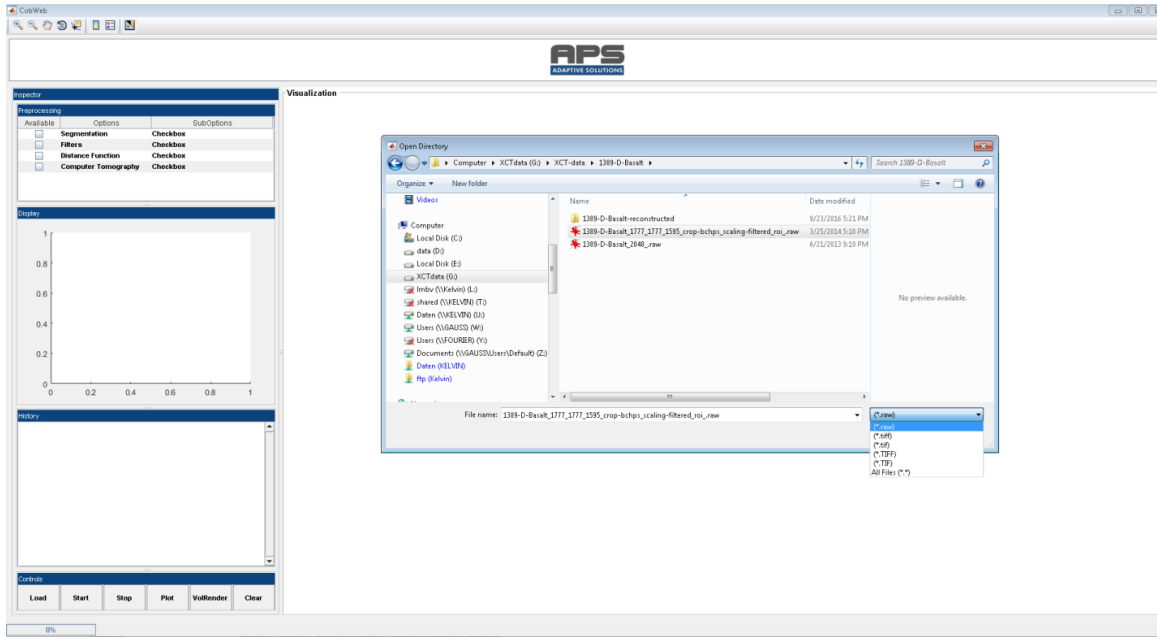

Figure 18: Loading a RAW file
- Figure 18: Instead of TIFF, the **RAW** option has to be selected from the **drop-down menu**.